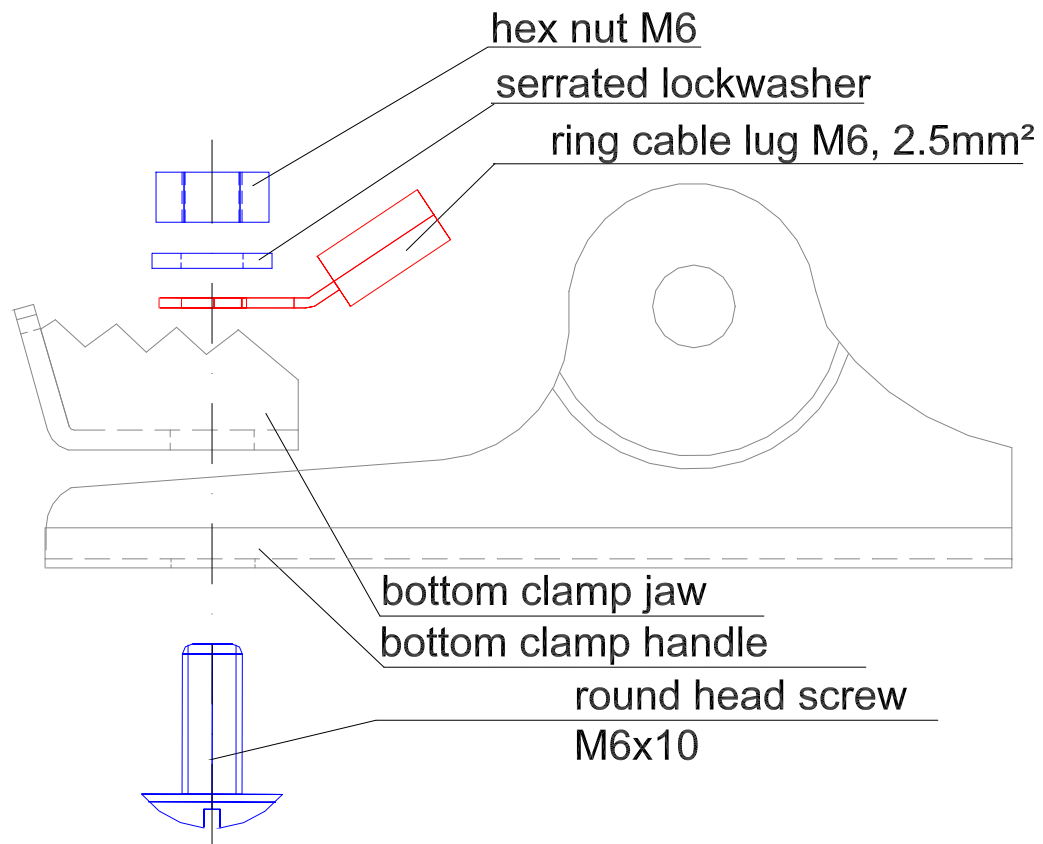

Figure 4: Connection of the outer clamp jaws (only two-pole use)
Step 7: Pull the molded part of the rubber sheath over the connecting screw (fig. 4).